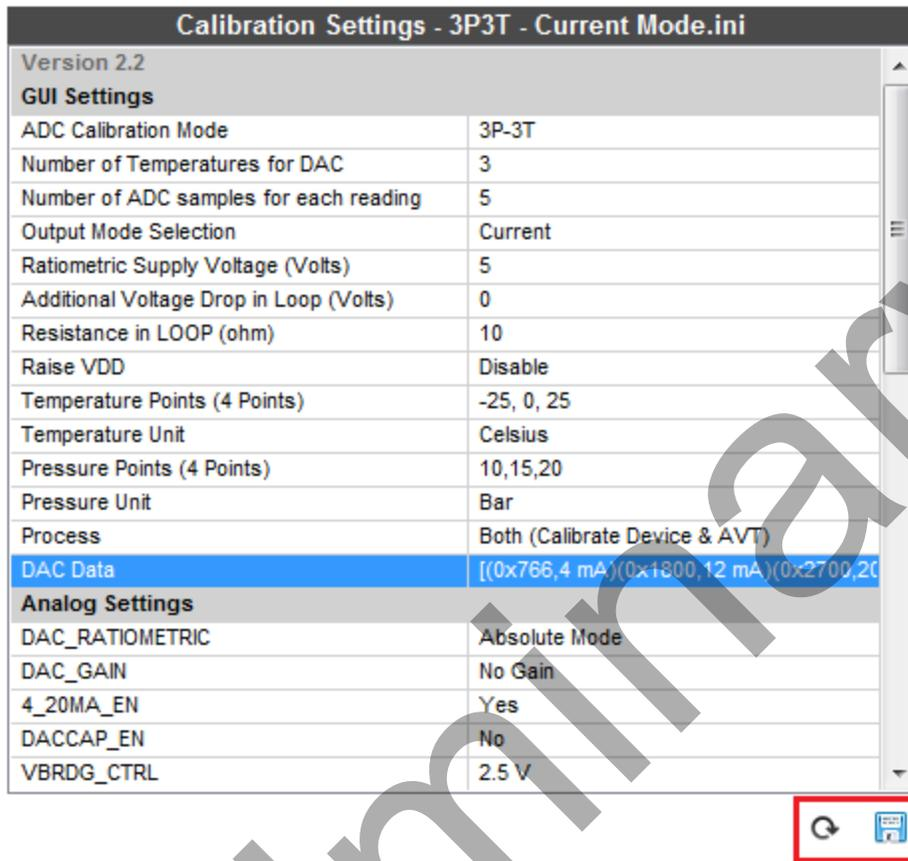

Fig 56: Calibration Settings File Save and Load
- Once the required settings have been edited, click on *save* option below the editor. To discard the changes and reload the original file, click on *reload* option below the editor. A confirmation will be asked when reloading the file. The reload and save option are highlighted in the figure *Fig 56: Calibration Settings File Save and Load*